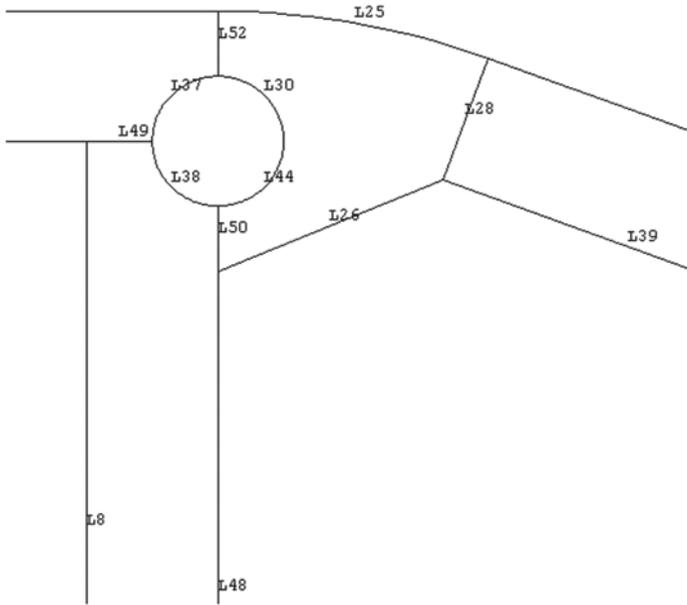

Fig. 9.38 Lines around the hole
- Zoom-in to the region around the hole inside the aluminum component near the top-right corner of the concrete, as shown in Fig. 9.38.